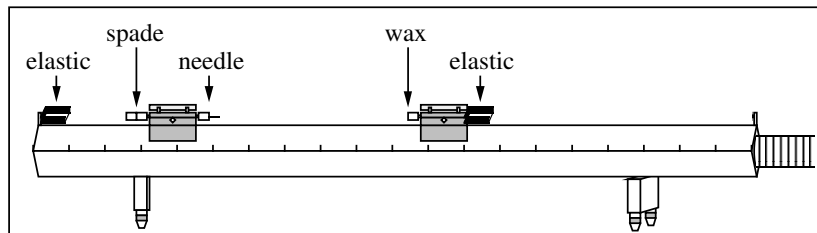

Figure 3: Sketch of the glider configuration for inelastic collisions.
1. Attach needle and wax insert to the gliders as in Fig. 3, so that they now stick together when they collide (inelastic collision). Make sure the needle lines up exactly with the wax or there will be significant sideways motion during the collision. Measure masses of gliders (with uncertainties). Repeat Exp. II. Start gliders from the same side (so that one overtakes the other), in order that  $p_{init} \neq 0$ .